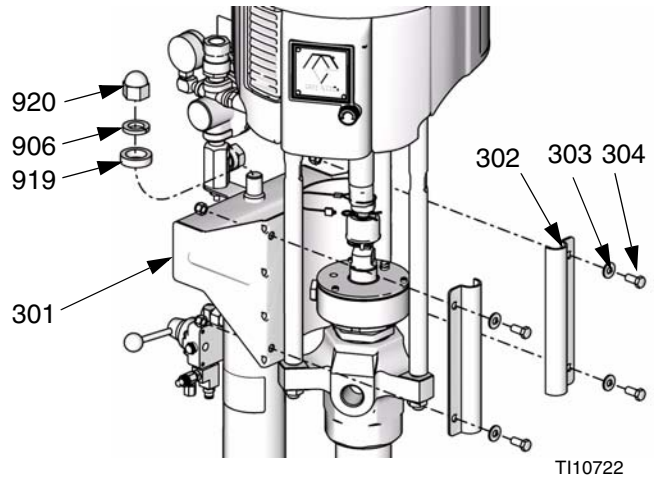

FIG. 36: S20 Mounting Hardware
2. Unscrew cap nut (920), washer (906), and spacer (919). Remove pump support (301) and attaching hardware. FIG. 36.
2. Unscrew cap nut (920), washer (906), and spacer (919). Remove pump support (301) and attaching hardware. See FIG. 36.
11. Install rod guide housing (931b) on piston rod (931c) and screw on cylinder cap (915).
12. Reinstall pump support (301) and attaching hardware. See FIG. 36.